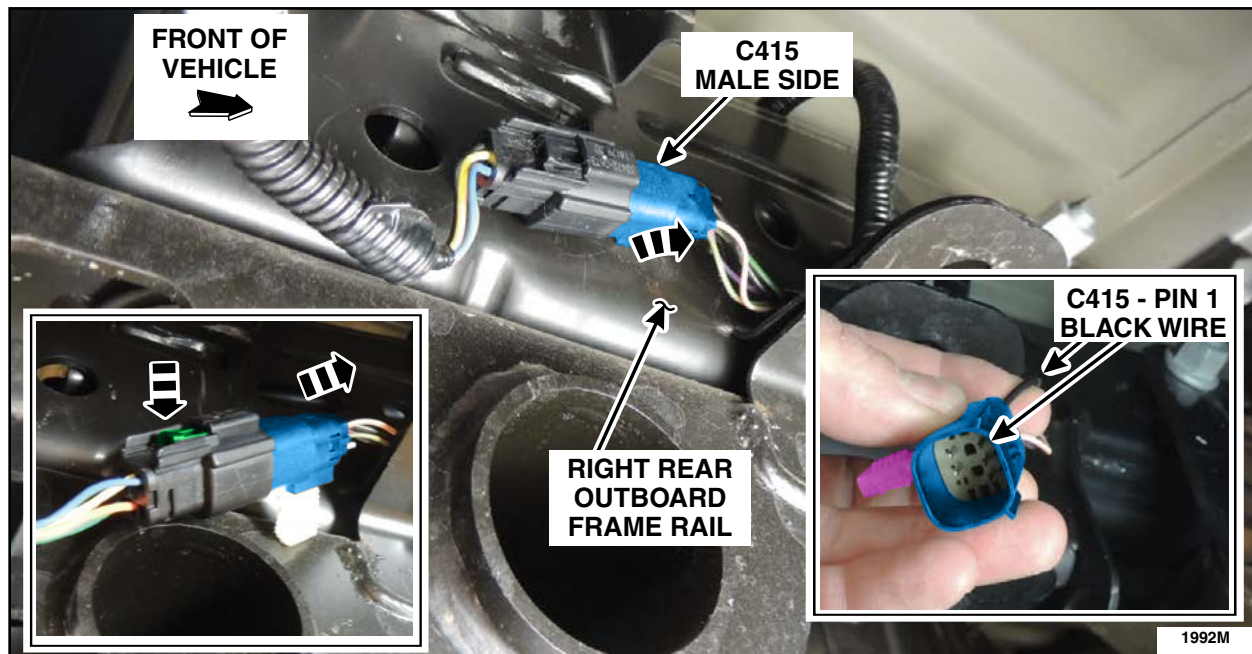

FIGURE 8
8. Working from the rear of the vehicle, disconnect connector C415 (Without BLIS) located on the right rear outboard frame rail, **above the tailpipe**. Then Locate pin 1 (Black (BK) wire) **on the male terminal side**. See Figure 8.
13. Connect connector C415 or connector C4484 and reattach the connector to the right rear frame rail. See Figure 8 or 9.